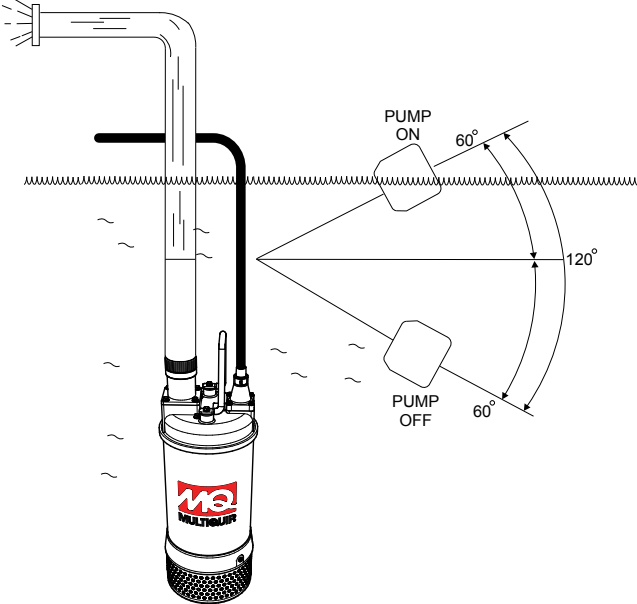
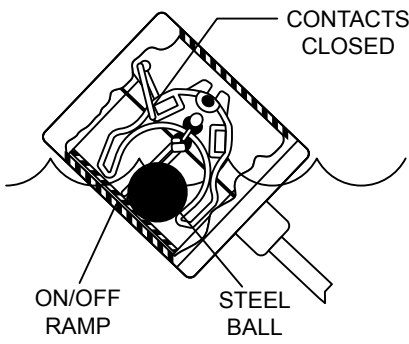
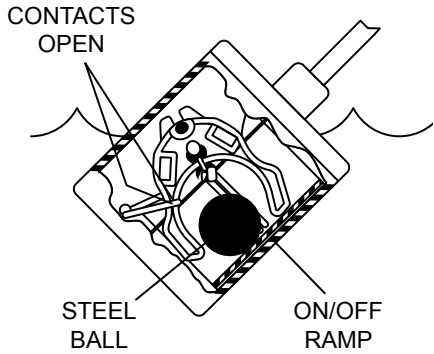

Figure 3. Pumping Range (Float Switch)
Figure 4. Float Switch (Closed)
Figure 5. Float Switch (Open)
The mechanical float switch control will turn **ON** (close) when the float tips 45° above -horizontal, indicating a high level, and turns **OFF** (opens) when the float switch drops 45° below horizontal. Reference Figure 4 and Figure 5. Maximum pumping range is 120 degrees. See Figure 3 below.
1. Determine the required **cord tether length** as shown in Figure 3 and Table 3.